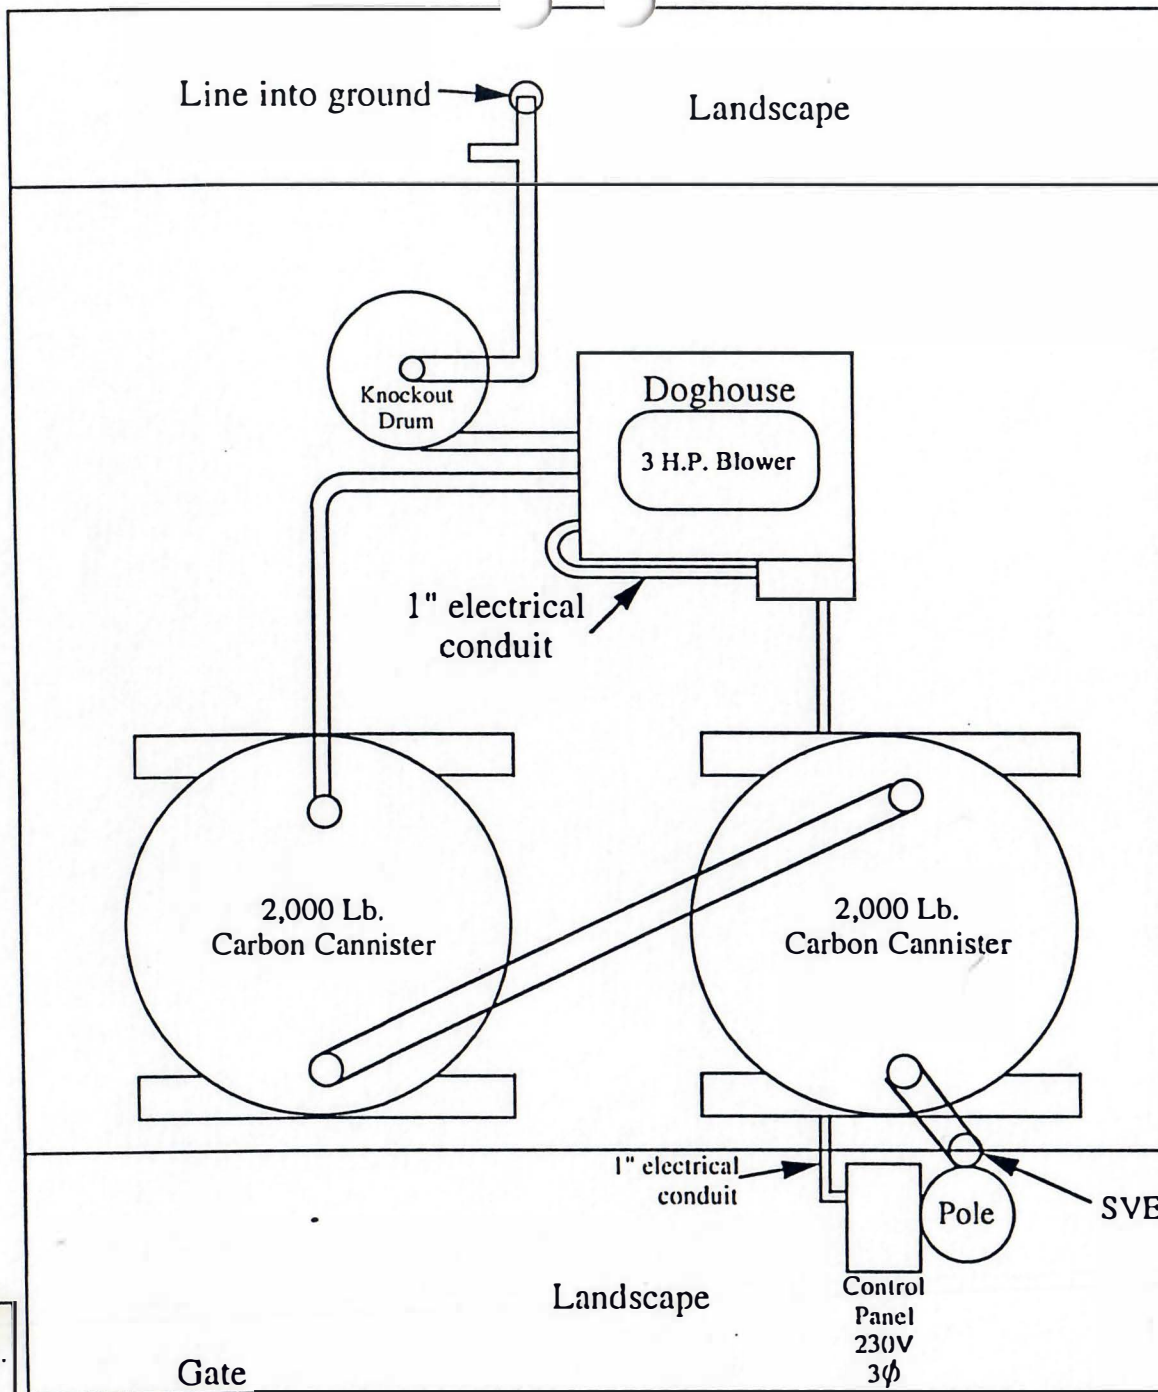

Figure 2:
- Figure 2: Remediation Layout - Topview
The layout of the system is shown in Figure 2. The soil vent system consists of four (4) wells (VW-1, VW-2, VW-3, and VW-4) that were installed at depths of 80 feet, 67 feet, 20 feet, and 15 feet, respectively. The wells were constructed of 4" diameter Schedule 40 PVC screens and casing. The vent wells were connected to a 4" diameter PVC manifold that leads to the inlet of the blower. A 4-inch PVC ball valve was installed at the outlet of each of the vent wells to regulate the flow from each well. A 24"x24" Pemco square manhole was installed at each vent well.